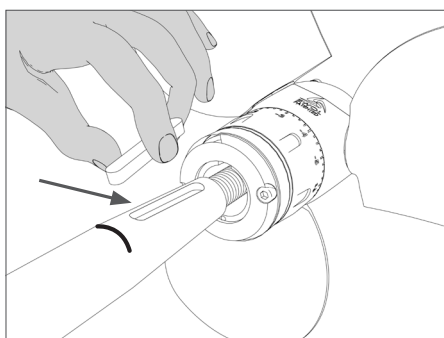

FIG. 12 | Inserting the key on the shaft
- Insert the key on the shaft (**Fig. 12**).